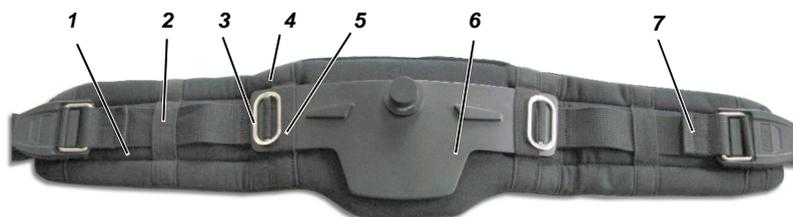

Fig. 40 Hip belt with swivelling plate
In these options a swivelling hip belt plate can be fitted. The hip belt is directly mounted on the swivelling plate as shown in Fig. 40.
- (1) Thread the metal buckles and the belt as shown in Fig. 40 through the **outer** loops in the belt padding.
- (2) Thread the swivelling plate into the two **inner** loops of the belt padding.
- (3) Mount the metal buckles as shown at the swivelling plate.